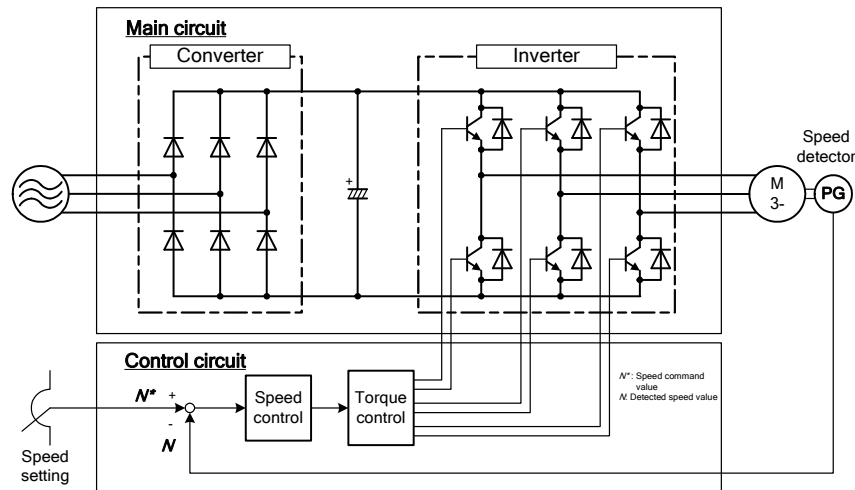

Figure 1.3.5 Closed-loop Speed Control: Basic Architecture
Figure 1.3.5 illustrates the basic architecture of the closed-loop speed control method. Speed information from a speed detection sensor such as a pulse generator (PG) is fed back to the system and compared to the speed command, and the inverter's output frequency is controlled so that the speed command and the detected speed value match.